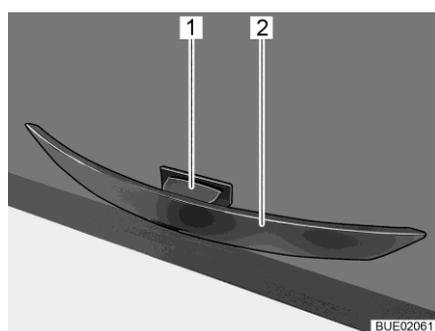

Fig. 88 Handle with release button
- Press the release button (Fig. 88,1) and hold it down.
- Pull the handle (Fig. 88,2) until the furniture flap is open.